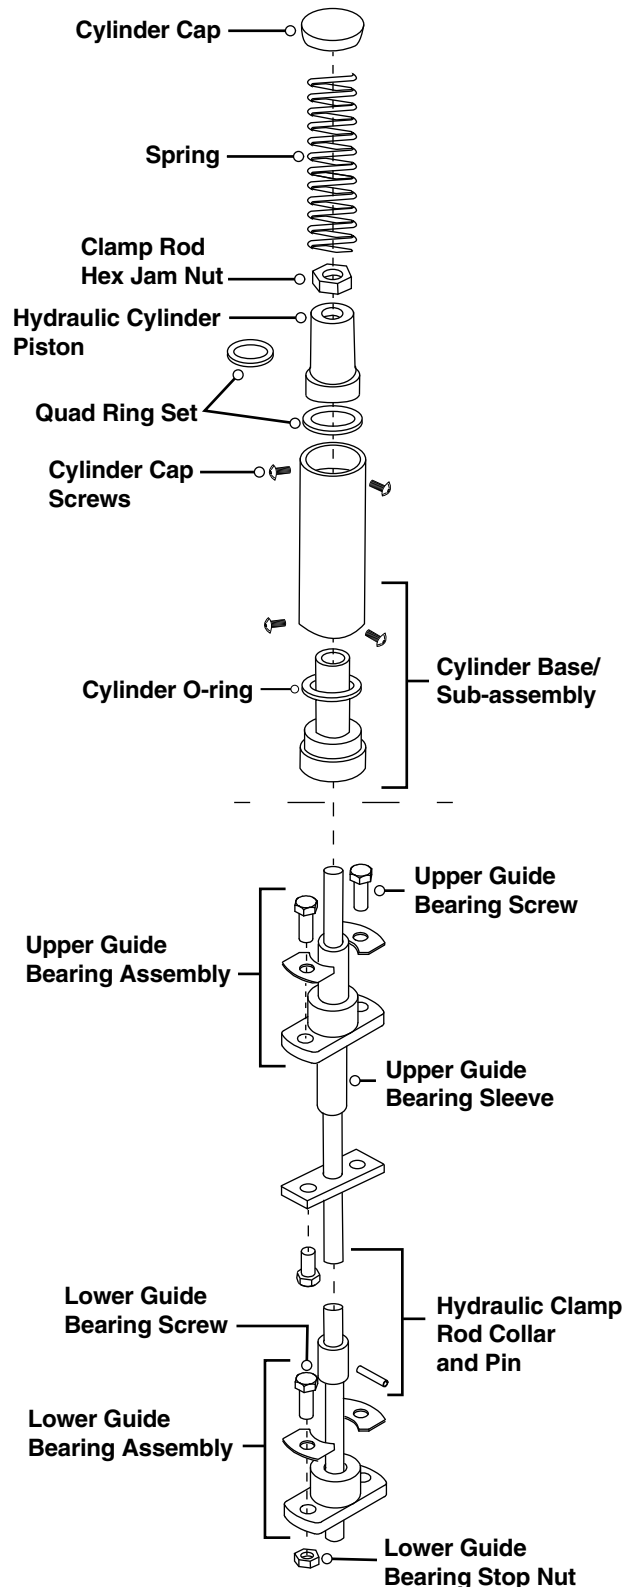

Figure 10: Hydraulic cylinder
3. Remove the three screws securing the cylinder cap (Fig. 10). The spring is compressed inside the cylinder by the cap, so caution is required. **Keep pressure on the cap with your hand as you remove the three screws.**
3. Working through the access hole near the base of the machine, drive the roll pin out of the clamp rod collar (Fig. 10). Slide the clamp rod collar down to rest on the lower guide bearing.